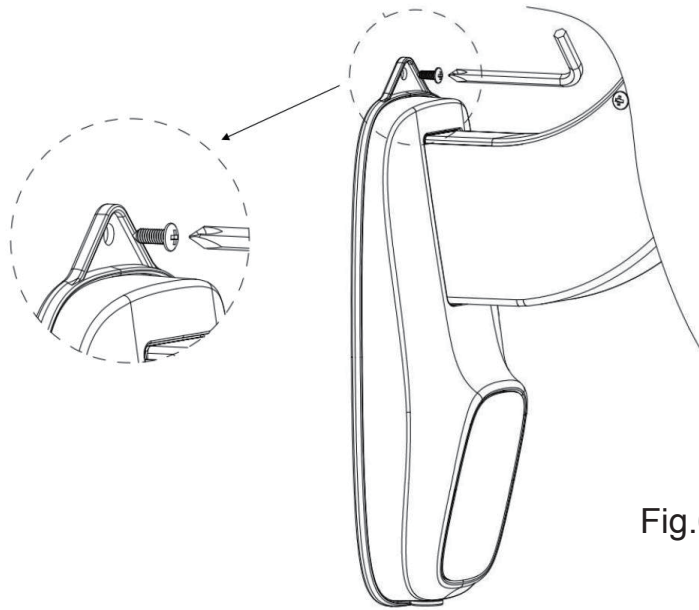

Fig.6
3.5 Intall the third mounting bracket screw into the top screw hole, secure the fan assmbly by tightening the third mounting brakcet screw with the L screwdriver. (Fig.6)